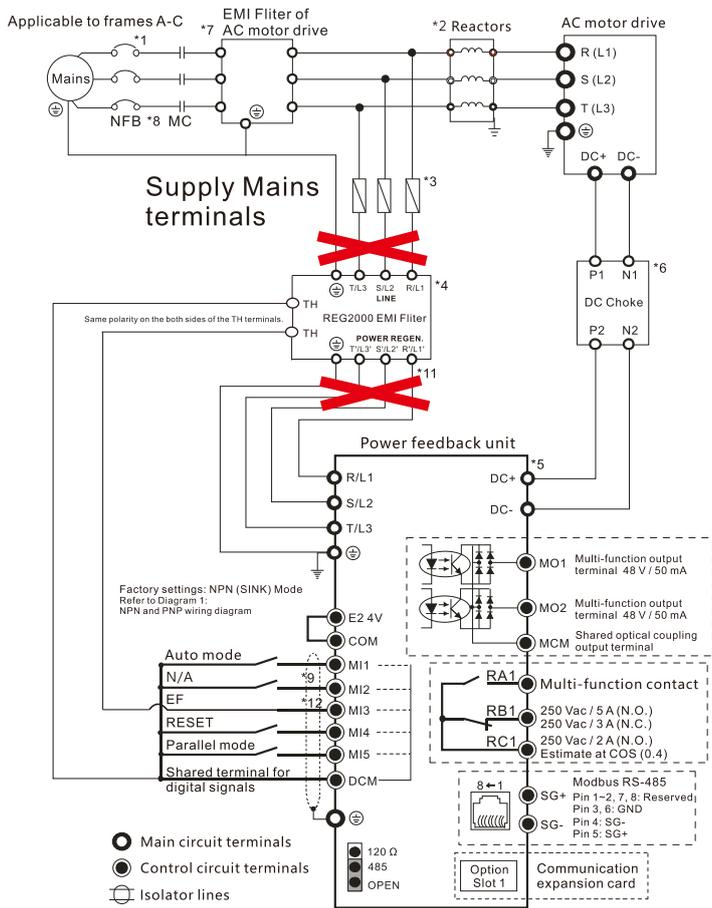
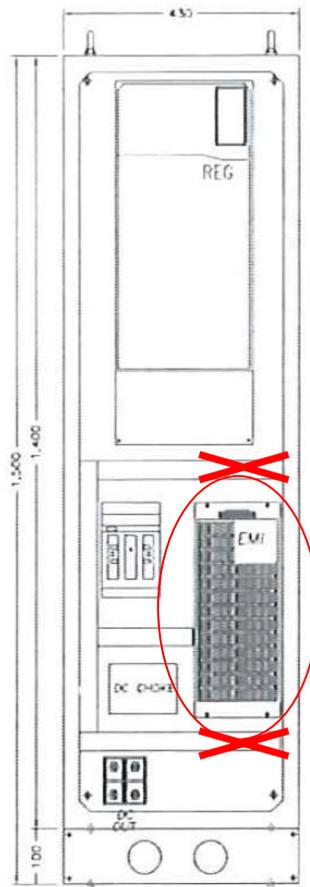

Figure 5-14
Figure 5-15
2. After confirming that all the related machinery / equipment has stopped running, disconnect REG and EMI filter, as shown in Figure 5-14 and Figure 5-15.